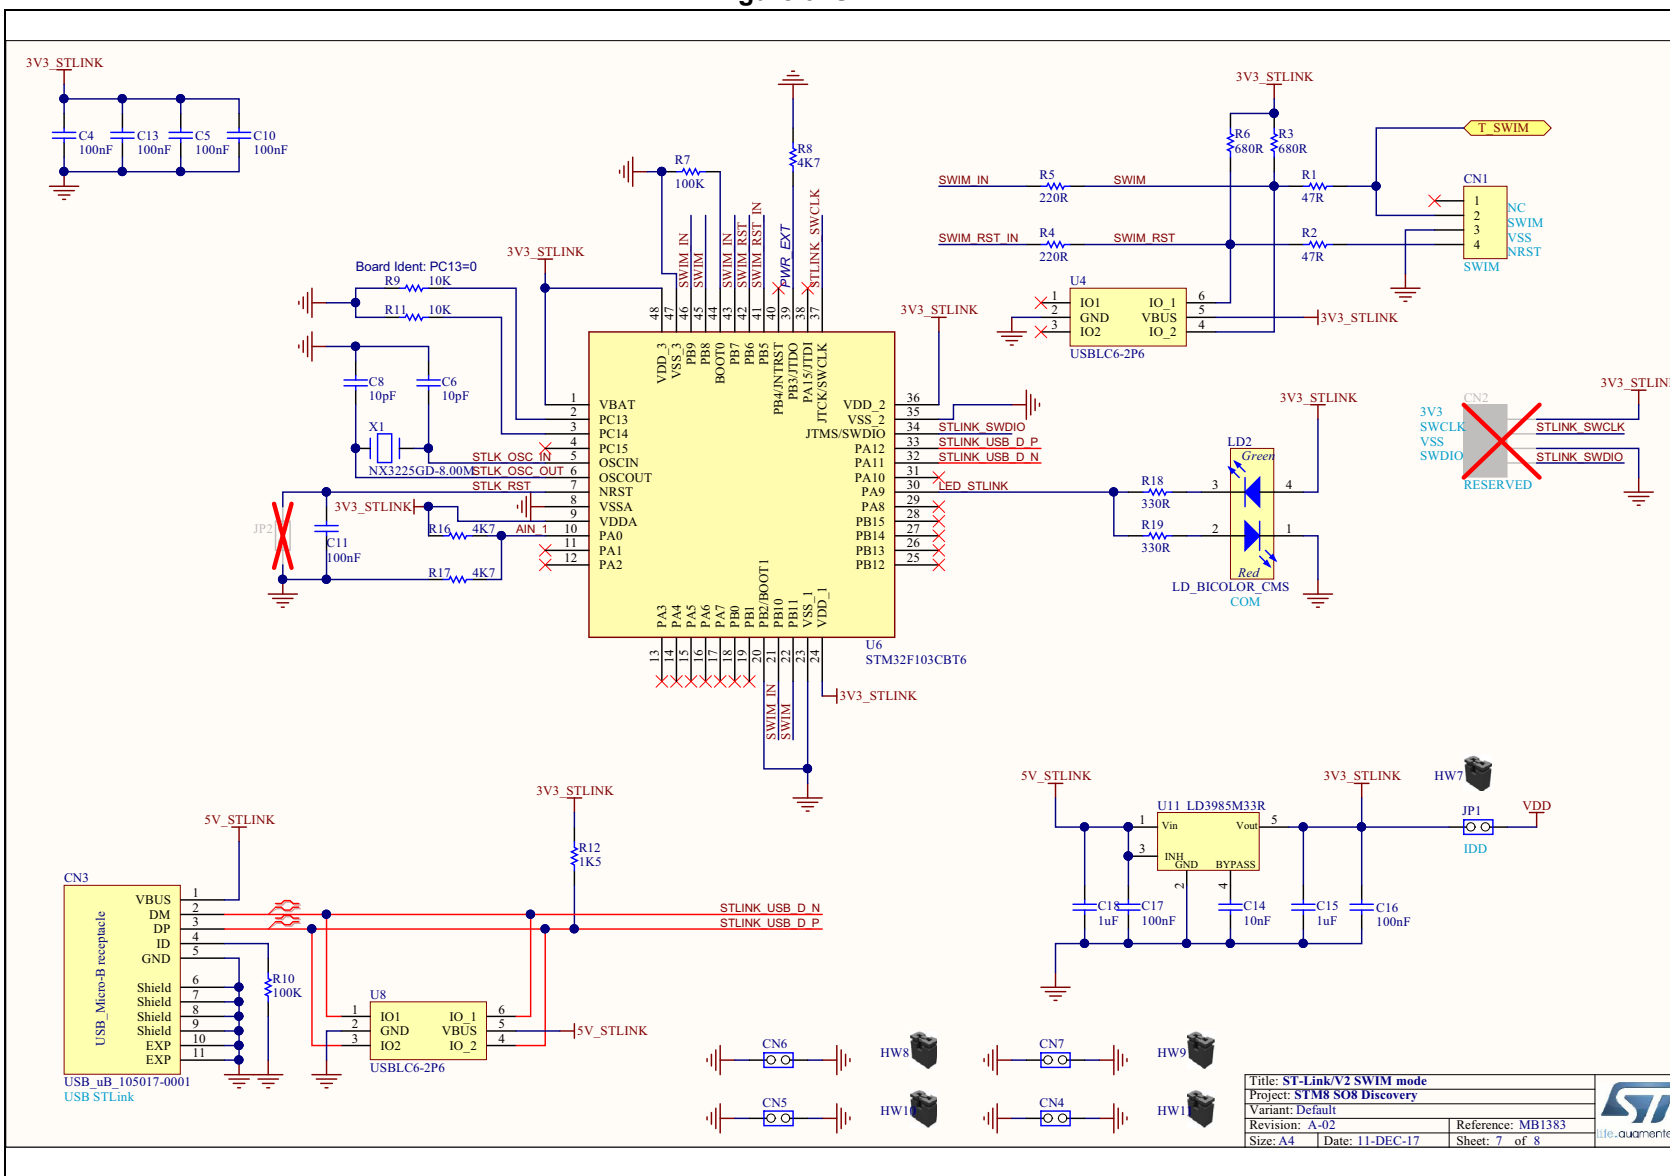

Figure 8. Button, LED and programming socket
- Figure 8: Button, LED and programming socket